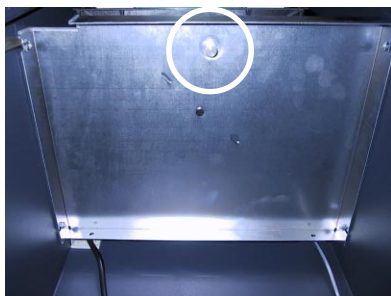
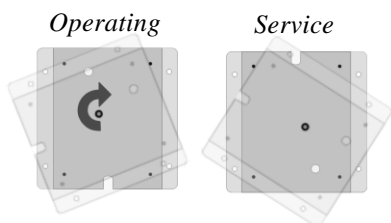

Figure 5. Location of turntable release pin on underside of dispenser tray.
Figure 6. Rotate turntable
5. If the turntable is not in the service position, pull down on the turntable locking pin on the underside of the tray as shown in Figure 5 and rotate the turntable clockwise until it is in the service position as shown in Figure 6. Release the locking pin to lock the turntable in the replenishment position.